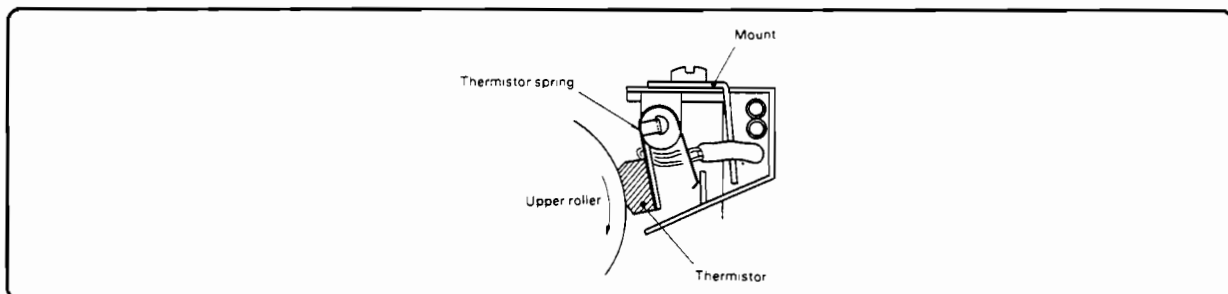

Figure 6-82. Thermistor Installation
3. When installing the thermistor, make sure that the sensing face of the thermistor contacts the upper roller surface evenly (Figure 6-82).